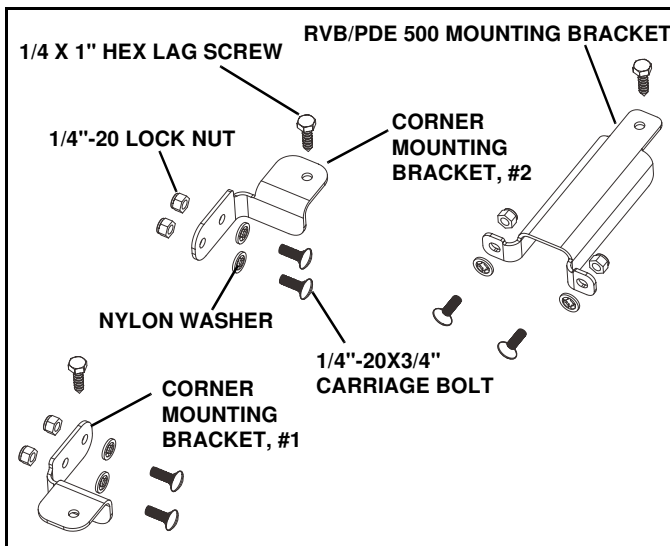

Figure 1-1
1. Open the bag marked "Tank Mounting Kit" and locate the following parts. (See Figure 1-1)